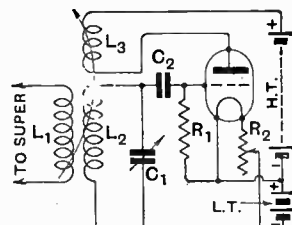
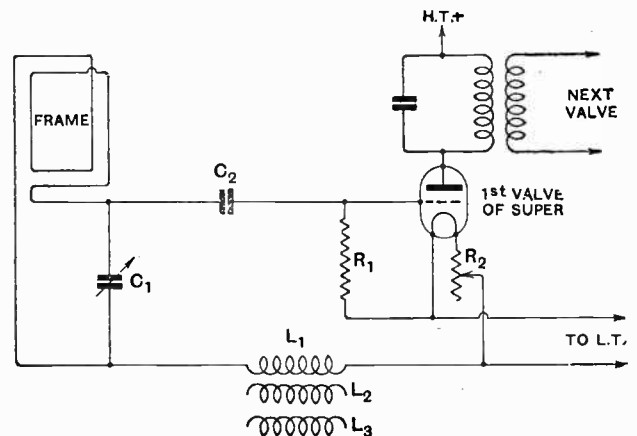

Fig. 2.—Local oscillator circuit in common use in superheterodynes.
Fig. 3.—An arrangement of coils L_1 , L_2 and L_3 (Fig. 2), which justifies fixed coupling.
A circuit in common use against which there is nothing to be said, except multiplicity of controls, is shown in Fig. 2. This embodies two moving coils, a variable condenser, and filament rheostat, and is an arrangement from which many modifications have been evolved. Those adaptations that are of interest here are those which eliminate variables.
The modified arrangements which have had even greater use than the original are those in which there is a fixed coupling between L_1 and L_2 , or L_2 and L_3 , or L_1 , L_2 , and L_3 , and, admittedly, it is very straightforward; but the question arises as to whether any or all of these are strictly justifiable arrangements in accordance with point (2) above. The answer is that the efficiency of the original arrangement, Fig. 2, is not approached except in a particular case when L_1 and L_2 are fixed, and this in such a circuit as Fig. 3. Here L_1 consists only of few turns of wire, so that maximum coupling is always required between L_1 and L_2 .
Out of all this comes the question as to whether the arrangement as given in Fig. 2, and its modifications as discussed above, are of real value, despite their continued use in super-hets.